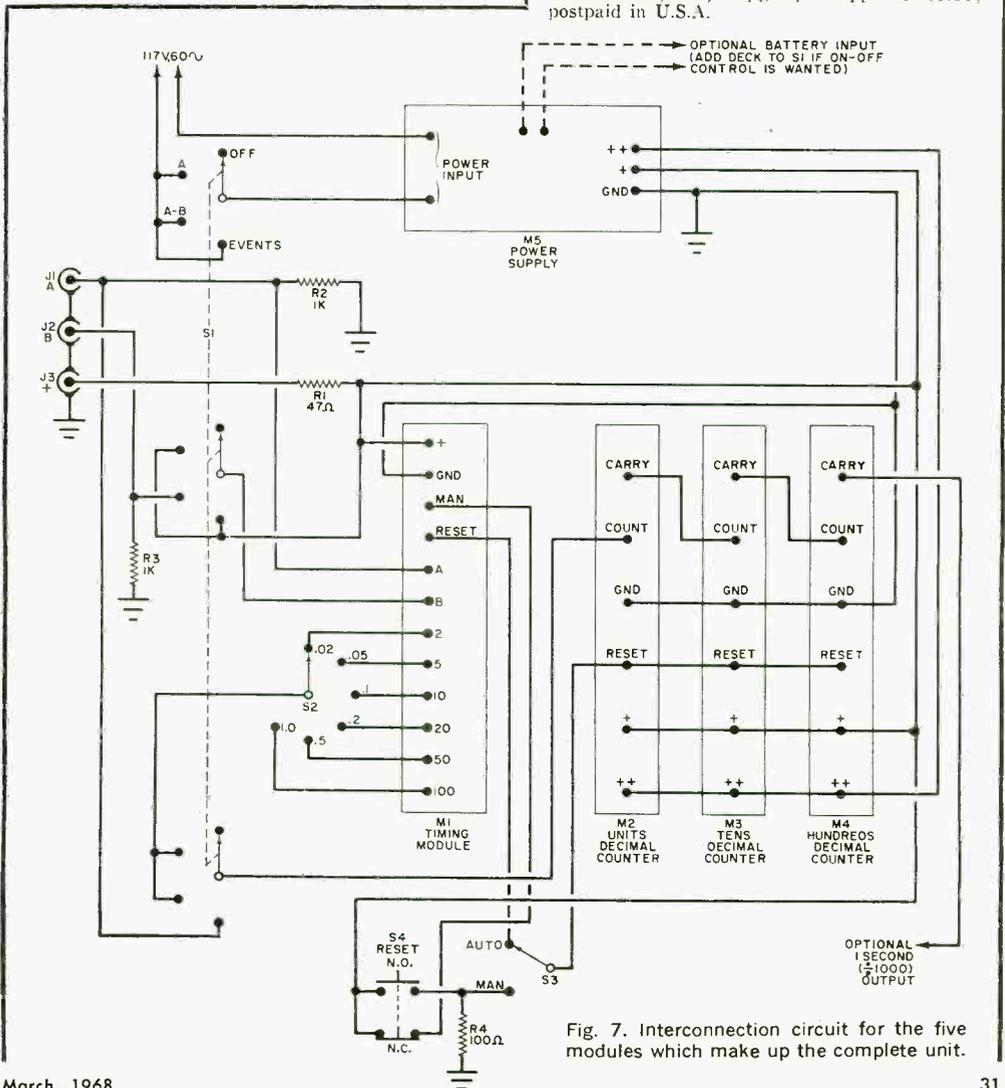

Fig. 7. Interconnection circuit for the five modules which make up the complete unit.
Overall Assembly. Figure 7 is the complete stopwatch interconnection schematic diagram. The overall assembly
Wire the various modules and switches together in accordance with Fig. 7. Use color-coded leads, and note that the deci-
*A few signal-conditioning circuits were shown in Fig. 7 of the “Counting Unit” article which appeared in the February 1968 issue. Figure 7(a) and (b) showed two approaches with mechanical switches, while Fig. 7(c) and (d) illustrated two methods of signal conditioning with sine-wave generators.